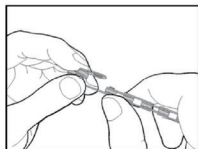
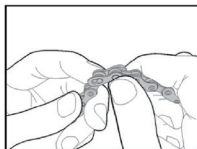

Fig.1
Fig.2
1. Insert the plates of the Drive Link on opposing sides of each chain end. (Fig.1) Insert and hook Drive Link pins into the opposite plate. (Fig.2)